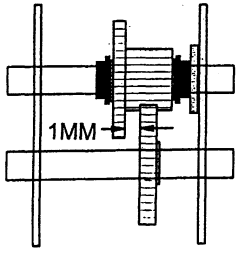
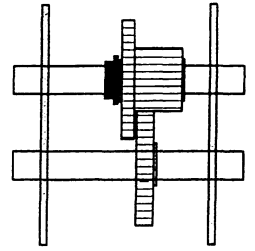
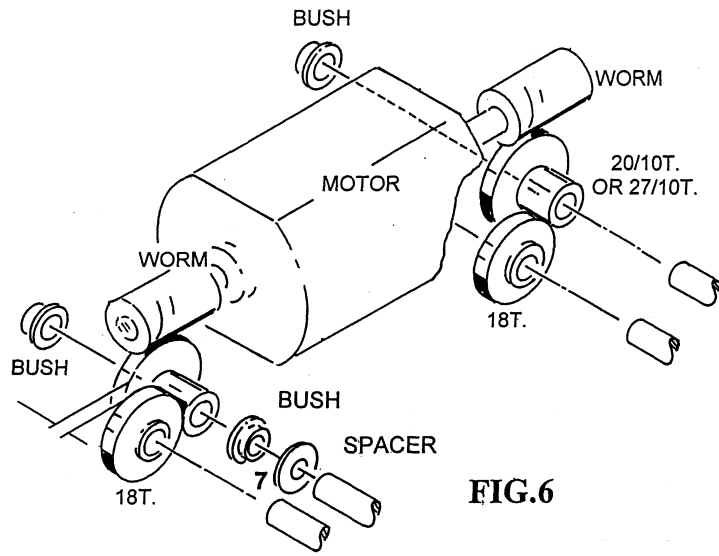

FIG. 7
FIG. 8
FIG. 6
Thread the **front and rear gearshafts** through the mainframe and fit the double gears, spacer (7) and bushes as you do so (see Figure 6). The double gears are free to revolve on their shafts. Note that front and rear spacing arrangement is different - the front shaft (Figure 7) has a bush on either side, plus a spacer washer, whereas the rear shaft (Figure 8) has only a single bush on the outside of the larger gear. Adjust the gearshafts until they are exactly centred in the mainframe and then, at one end only, lightly superglue them in place. Now, using the alignment marks on the bottom of the bogie, position the double gears so the larger-diameter gear is exactly central on the shaft. Slide the two outer bushes into place against these gears, and
Having removed any chemical blackening from the tyres you can now fit the **wheels**, adding washers and/or plastic tube, cut to length to eliminate sideplay on the fixed axle but allowing the rocking axle a little play so it can pivot easily. Always use an accurate gauge to determine the **back-to-back distance** – it makes no difference to the running if the axles are fractionally too long or too short but if the back-to-back measurements are out, you will have trouble. Now you can fine-tune the position of the single gear on each driven axle (Figures 7 & 8). On the front axle, allow about 1mm sideways clearance with the side face of the double gear. The rear 18-Tooth gear should run almost up against the double gear, when the latter is hard against its bush. Allow only a small amount of clearance – enough to prevent any sideplay at the rear axle from jamming gears together. Test by pushing the bogie along a flat surface - if you have been careful with the alignments of shafts in their holes, you should have a perfect mesh first time without any tight spots.